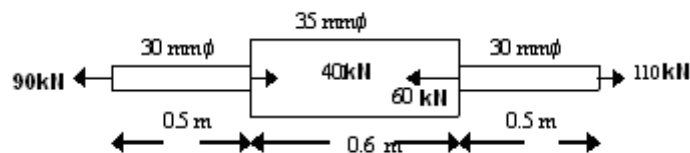

Figure 1b
- (b) A steel bar 1.6 m long is acted upon by forces as shown in the Figure 1b. Find the elongation of the bar. Take  $E = 2.1 \times 10^8 \text{ KN/m}^2$ . [10]